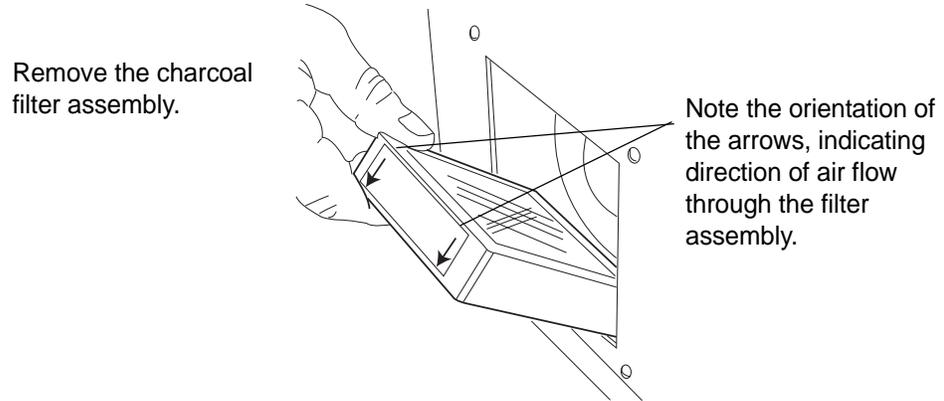

Figure 4-10 Remove the Charcoal Filter
2. Pull the charcoal filter out of the processor. Note that the top of the filter has a label, with arrows indicating the direction of the air flow through the unit. The arrows point outward, toward the rear of the processor. (Refer to Figure 4-10).